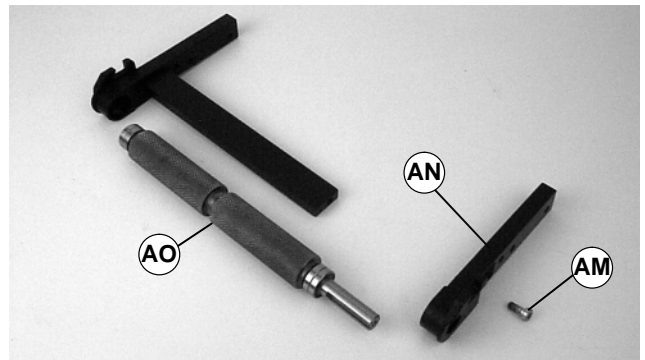

Figure 31
6. Remove screw (AM of Figure 31).
7. Remove headplate (AN).
8. Remove pulley (AO).